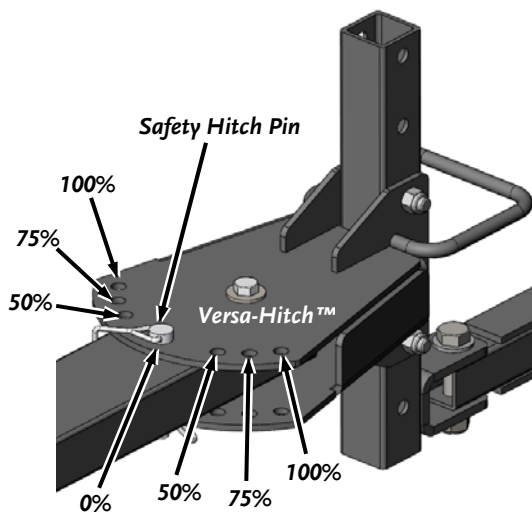

Figure 26
1. Remove the Safety Hitch Pin (**Figure 26**) from the Versa-Hitch™ and pull the Out-Rigger™ Tow Bar to the position that matches the Tow Bar position on the Deck. Re-attach the Safety Hitch Pin.